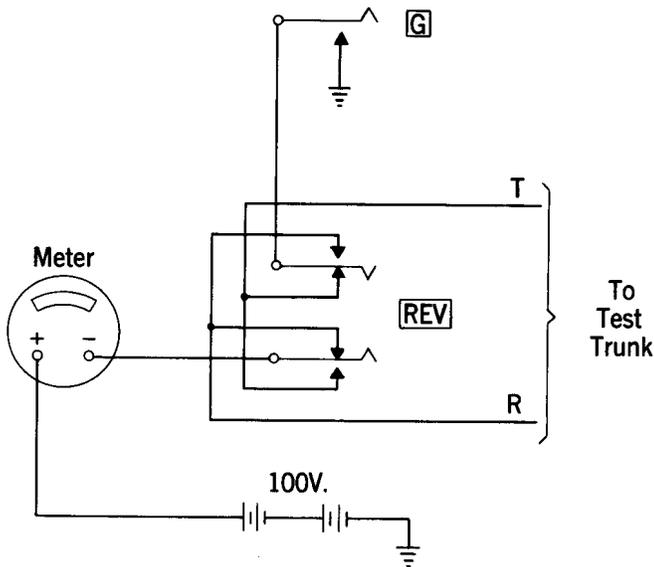

Fig. 5—Ballistic Test Using the Voltmeter
**5.04** Set up the connection to the subscriber line. Fig. 5 shows the connection for the voltmeter test. (In case the subscriber line is known to be equipped with one or more tube-type subscriber
- (a) **Capacitor Across Tip and Ring (See Fig. 5):** The operation of the G key connects ground to the tip side of the line and allows current to flow from the test battery through the winding of the voltmeter to charge the capacitor. The momentary flow of current causes a momentary deflection, or "throw" of the voltmeter needle. The operation of the REV key reverses the line causing the capacitor to discharge in series with the test battery and voltmeter, and immediately recharge with a polarity opposite to the original charge. This operation causes a "throw" of the needle approximately twice as great as when the G key was operated at the beginning of the test. The increased "throw" is due to the combined effort of the test battery and the charged capacitor. The restoration or any subsequent operation of the REV key results in like manner in the same increased deflection. The extent of the "throw" is proportional to the capacitance of the capacitor.
- (b) **Capacitor Connected Between the Ring Side of the Line and Ground (See Fig. 5):** When the test circuit is connected to the line, current flows through the winding of the volt-milliammeter and charges the capacitor. As previously stated, however, no attention should be paid to any deflection of the volt-milliammeter incident to establishing the testing connection. The operation of the G key has no effect on the circuit. The operation of the REV key with the G key operated connects ground to the ring side of the line and discharges the capacitor. This action is not indicated by the volt-milliammeter. The restoration of the REV key causes current to again flow through the winding of the volt-milliammeter and recharge the capacitor. The recharge of the capacitor is indicated by a momentary deflection of the voltmeter needle. The extent of the deflection is proportional to the capacitance connected between the ring side of the line and ground.
(a) **Restore All Keys to Normal (See Fig. 5):**
(b) **Operate the REV Key (See Fig. 5):** If a steady deflection is obtained, a tip ground is indicated. Current flows through the winding of the volt-milliammeter to the tip side of the line to ground.
(c) **Operate the G Key (See Fig. 5):** If a steady deflection is obtained, a tip and ring short circuit is indicated. Current flows through the winding of the volt-milliammeter to the tip side of the line, through the cross to the ring side of the line to ground at the G key.